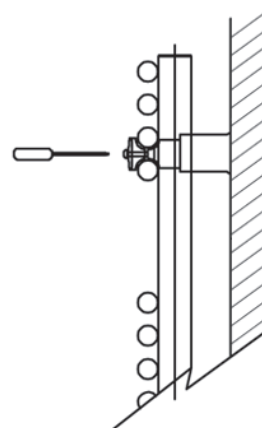

FIG. 6
9. Ensure the bolts are tight then hide the screw head using the cap provided (see FIG. 6).